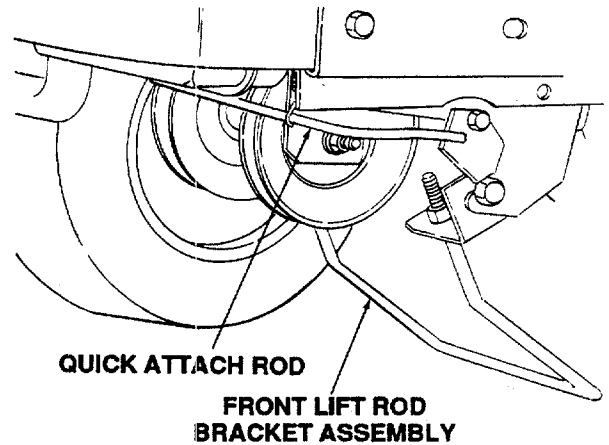

**Figure 50**
3. Make sure the slot in both rear deck brackets aligns with the implement lift links on each side of the tractor (Refer to Figure 50).